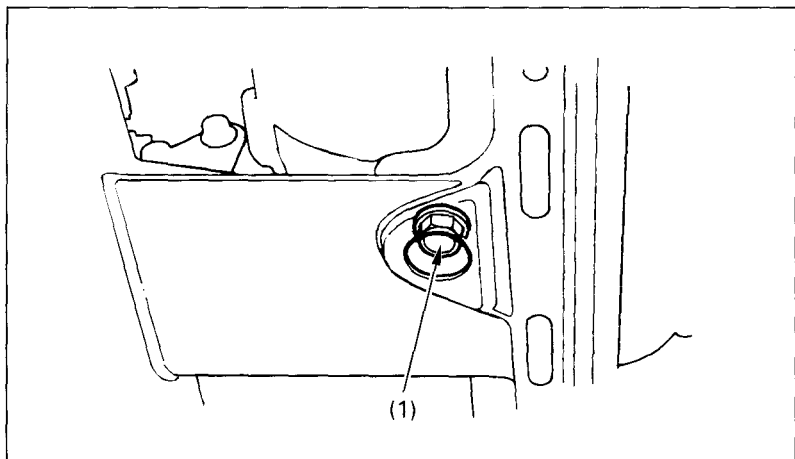

Fig. 4-12
2. Place an oil drain pan under the crankcase and remove the oil drain plug (Fig. 4-12).